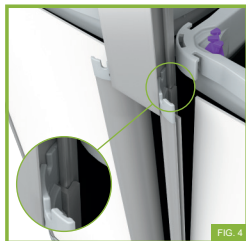

FIG. 4
- 4 With bodies sitting side-by-side in the preferred orientation, align the Connector Extrusion with the profile slots on the top edges of the Corner Extrusions and slowly slide it down, making sure that both Corner Extrusions are engaged into Connector Extrusion (**FIG. 4**)